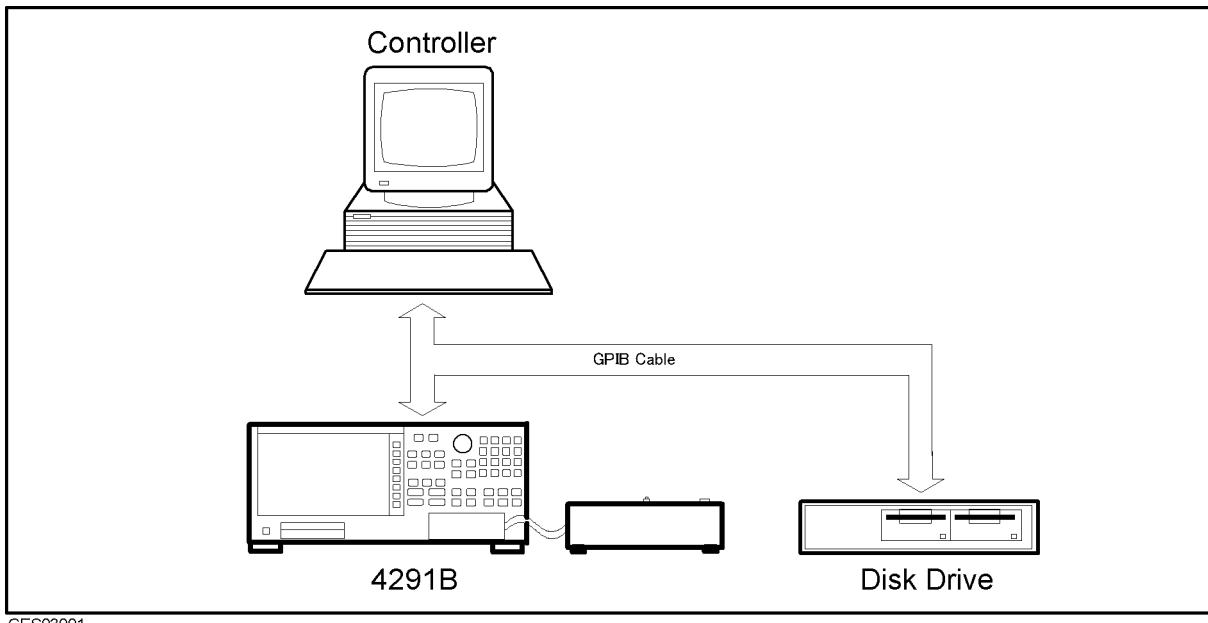

Figure 3-1. Updating Correction Constants Setup
1. Connect the equipment as shown in Figure 3-1